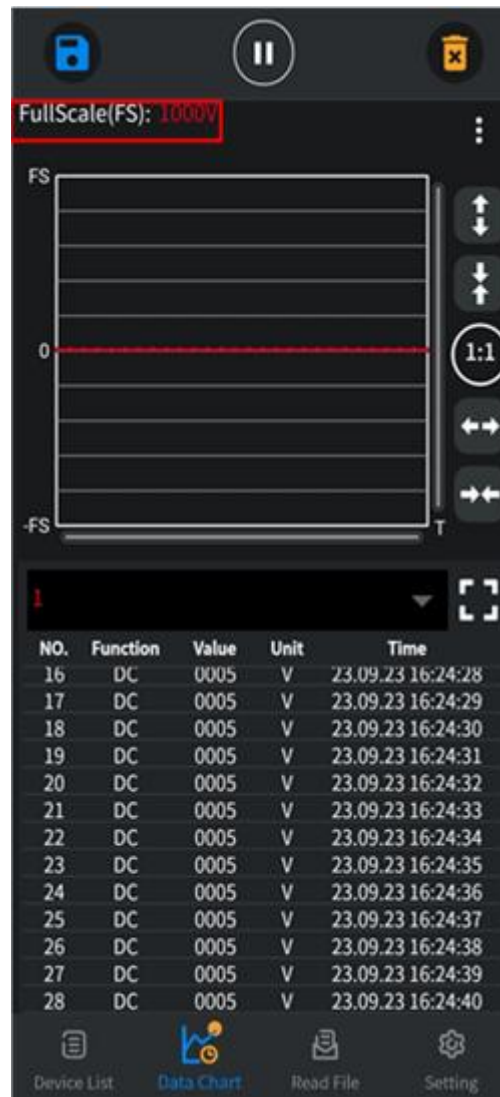

Figure 4
- Figure 4: The reading is 0005V, there's no decimal point. In this case, the full scale value should be 6000. However, the multimeter used in this example can only measure up to 1000V at most, so the full scale is shown as 1000V.
- (1) To display the appropriate line chart on the chart, it is necessary to select the appropriate measurement range or select the automatic range.For